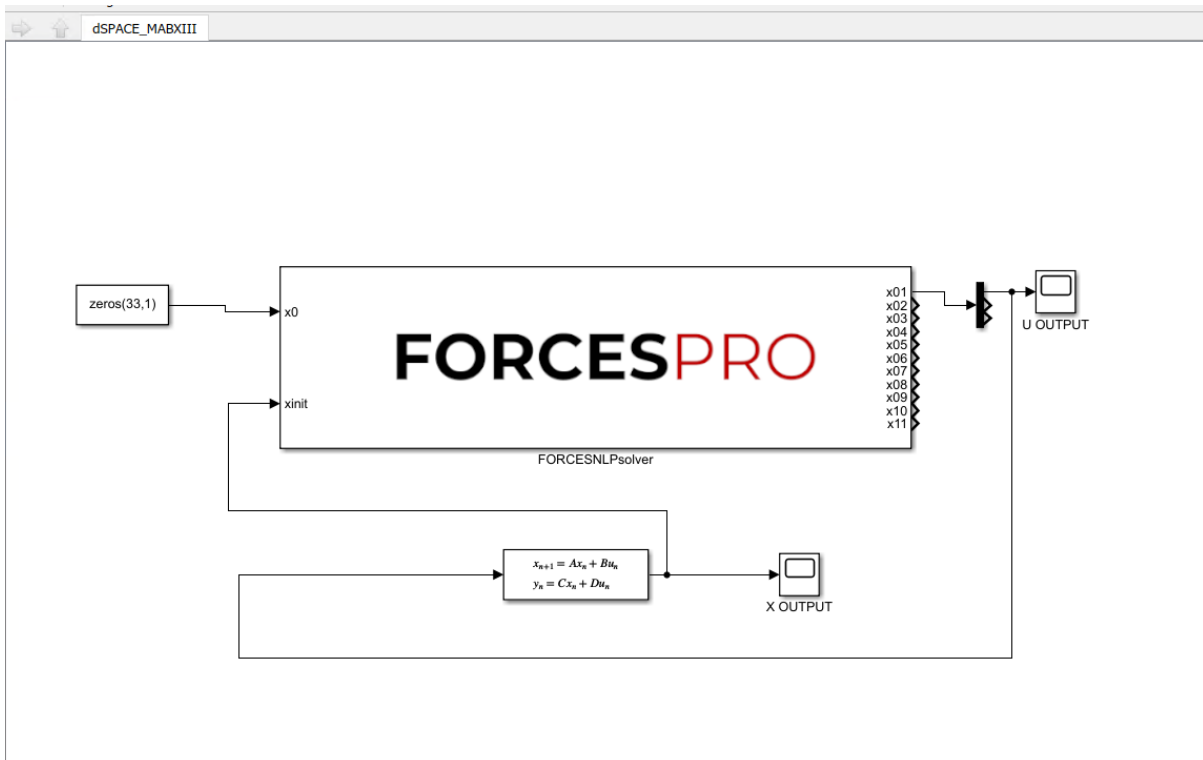

Figure 12.63: Copy-paste and connect the FORCESPRO block.
- 7) Copy-paste the FORCESPRO Simulink block into your simulation model and connect its inputs and outputs appropriately (see Figure 12.63).